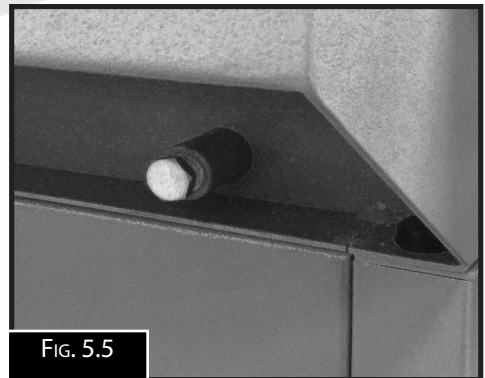

FIG. 5.5
2. Place a container under the drain and remove the drain plug on the side of the machine. (Fig 5.5)